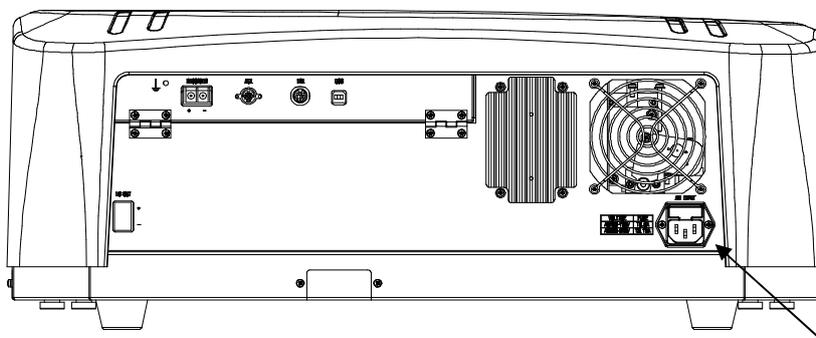

Figure 5.5 Rear Panel
- (1) Turn off the “Power” switch and unplug the power cable from the outlet
- (2) Insert a flat-head screwdriver under the fuse holder, then pull forward to remove the fuses along with the holder (Fig. 5.5).
- (3) Take the old fuses out of the holder, and replace with new ones. Insert the fuse holder in its original position.
- (4) Plug the power cable into the “AC INPUT” and turn the power switch on, and then check that the instrument can be operated.